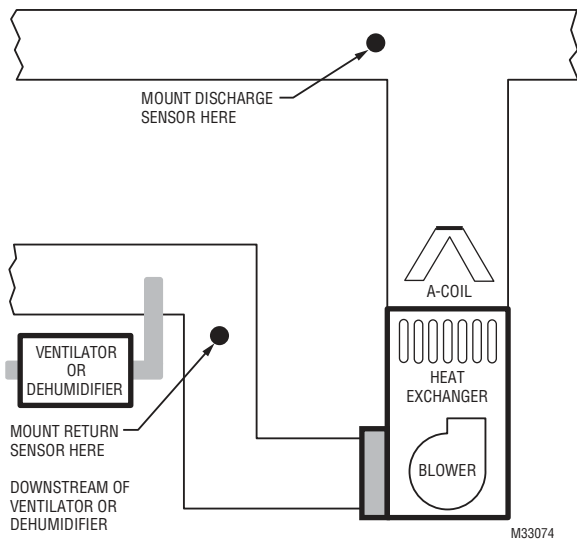

Fig. 10.
Refer to the guidelines below and Fig. 10–14 for mounting locations of the Discharge and Return Air Temperature Sensors.
- 1.** Mount the Discharge Air Temperature Sensor on the supply duct in a location where the air is mixed well. Mount the Discharge Air Temperature Sensor out of sight of the A-Coil/Heat Exchanger when possible. See Fig. 10.
1. Install the Return Air Temperature Sensor on the return duct in a location where the air is mixed well. Mount the Return Air Temperature Sensor downstream of a Bypass Humidifier, Dehumidifier or Ventilator. See Fig. 10–14.